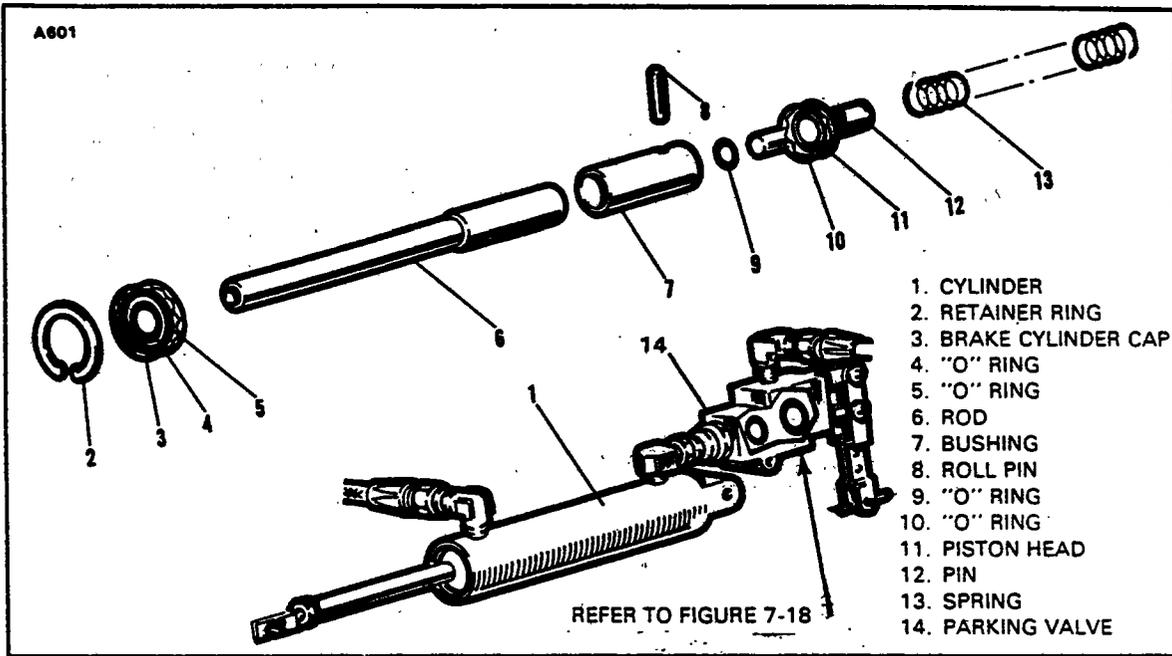
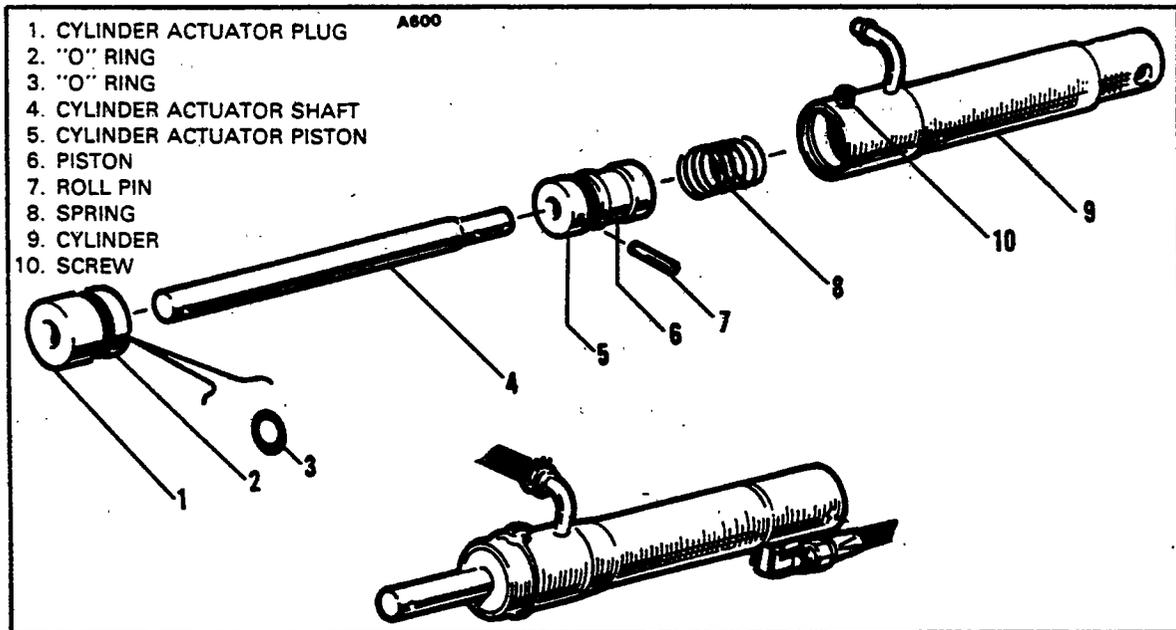
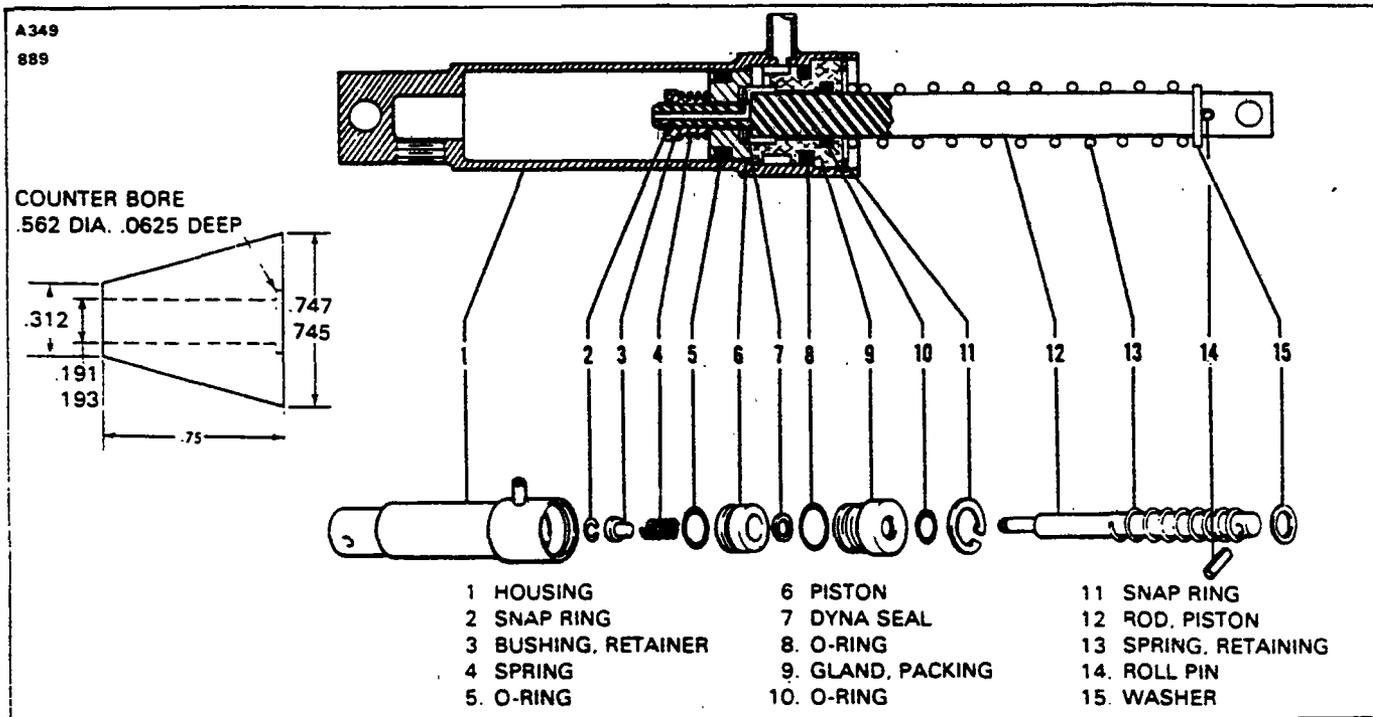

Figure 7-15. Brake Master Cylinder (Hand Brake)
Figure 7-16. Brake Master Cylinder (Hand/Parking Brake)
Figure 7-17. Brake Master Cylinder. (Hand/Parking Brake)
- a. PA-28-150, -160, Serial Nos. 28-1 to 28-250 incl. (Refer to Figure 7-15.)
2. To disassemble the cylinder, first remove the piston rod assembly by removing the retainer ring (2) from the annular slot at the rod end of the cylinder. Draw the piston rod assembly from the cylinder. Remove the spring (13) from the cylinder.
3. The piston rod assembly may be disassembled by first removing the clevis end from the piston rod (6) and then sliding off the brake cylinder cap (3).
4. Remove the roll pin (8) from the bushing (7) thus releasing the piston head and O-rings (9 and 11).
- b. PA-28-140, Serial Nos. 28-20002 to 28-21036 incl; PA-28-150, -160, -180 Serial Nos. 28-251 to 28-2700 incl; PA-28-235, Serial Nos. 28-10003 to 28-10679 incl. (Refer to Figure 7-16.)
2. Cut the safety wire and remove screw (10) that secures the plug (1) in the end of the cylinder (9).
3. Remove the plug (1) and piston assembly from the cylinder by pulling the cylinder actuator shaft (4) from the cylinder.
4. Remove the spring (8) from within the cylinder.
5. Remove the roll pin (7) from the cylinder actuator piston (5) and pull off the piston.
- c. PA-28-140, Serial Nos. 28-21037 and up; PA-28-150, -160, -180, Serial Nos. 28-2701 and up; PA-28-235, Serial Nos. 28-10698 and up. (Refer to Figure 7-17.)
2. To disassemble the cylinder, first remove the piston rod assembly by removing the snap ring (11) from the annular slot at the rod end of the cylinder. Draw the piston rod assembly from the cylinder.
3. The piston rod assembly may be disassembled by first removing the small snap ring (2) securing the retainer bushing (3), spring (4), piston (6), seal (7), gland (9), and, if desired, the large retainer spring (13).
- a. PA-28-150, -160. Serial Nos. 28-1 to 28-250 incl. (Refer to Figure 7-15.)
- b. PA-28-140, Serial Nos. 28-20002 to 28-21037; PA-28-150, -160, -180, Serial Nos. 28-251 to 28-2700 incl; PA-28-235, Serial Nos. 28-10003 to 28-10697 incl. (Refer to Figure 7-16.)
1. Install the new "O" rings (2 and 3) on the cylinder plug (1).
2. Install the cylinder actuator piston (5) on the actuator shaft (4) and secure with the roll pin (7).
3. Install a new "O" ring (6) on the actuator pin.
4. Place the spring (8) into the cylinder housing, and carefully slide the actuator and shaft assembly into the housing.
5. Install the plug assembly (1) on the shaft and install the screw through the housing.
- c. PA-28-140. Serial Nos. 28-21037 and up; PA-28-150, -160, -180. Serial Nos. 28-28-2701 and up; PA-28-235. Serial Nos. 28-10698 and up. (Refer to Figure 7-17.)
1. Install new "O" ring on the inside and outside of the packing gland (9) and on the outside of the piston (6). (When installing teflon "O" ring (5) on piston, it is recommended that it be installed with the use of a cone placed against the piston. The cone may be constructed of plastic or metal with dimensions shown in Figure 7-17.)
2. To assemble the piston rod assembly, install on the rod (12), in order, the roll pins (14), return spring retainer washer (15), retaining spring (13), packing gland (9) with "O" rings (10), seal (7), piston (6) with "O" ring, spring (4) and retainer bushing (3). Secure these pieces with snap ring (2) on the end of the rod.
3. Insert the piston rod assembly in the housing (1) and secure packing gland with snap ring (11).